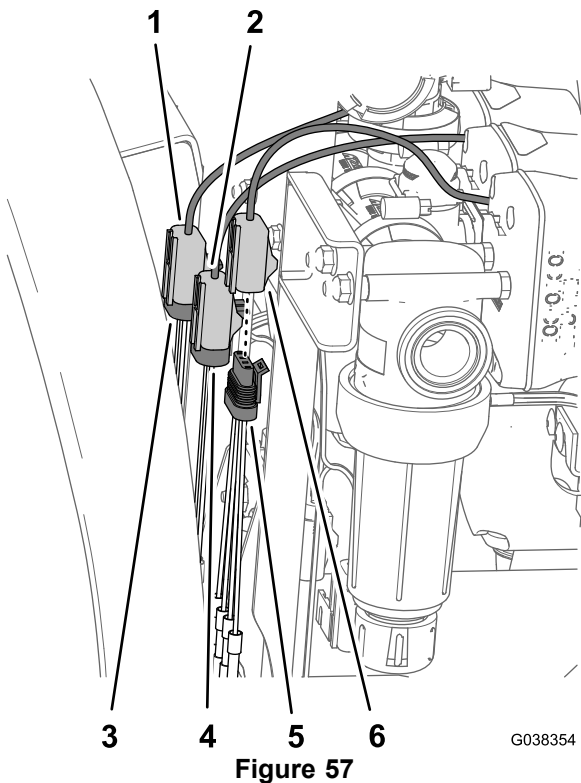

Figure 57
1. Connect the 3-pin valve harness labeled MASTER-SPRAY VALVE into the 3-socket connector for the master-spray valve (Figure 57).
2. Connect the 3-pin valve harness labeled AGITATION VALVE into the 3-socket connector for the agitation valve (Figure 57).
3. Connect the 4-pin valve harness labeled RATE VALVE into the 4-socket connector for the rate valve (Figure 57).